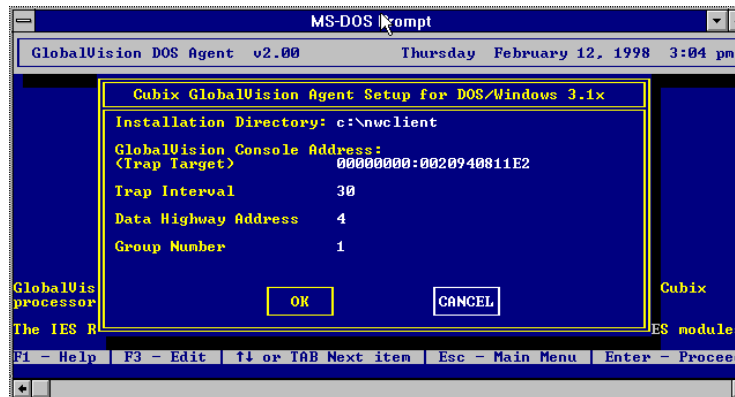

Figure 54 – GlobalVision Agent Setup for DOS/Windows® 3.1x
2. Do the following in the **GLOBALVISION AGENT SETUP FOR DOS/WINDOWS 3.1x** screen. See Figure 54.